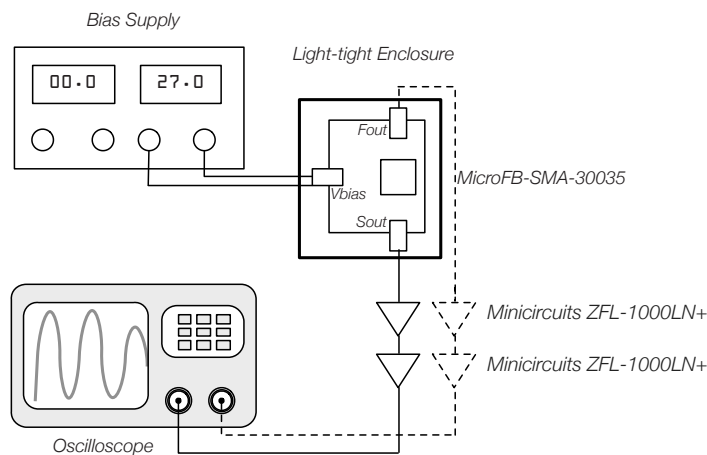

Figure 7, Set up for observing dark counts
- Using Figure 7 as a reference, connect one of the SMA-to-BNC cables to the *Vbias* SMA on the MicroFC-SMA-30035 board, and the other end to the bias supply, using the banana plug adapter if needed.